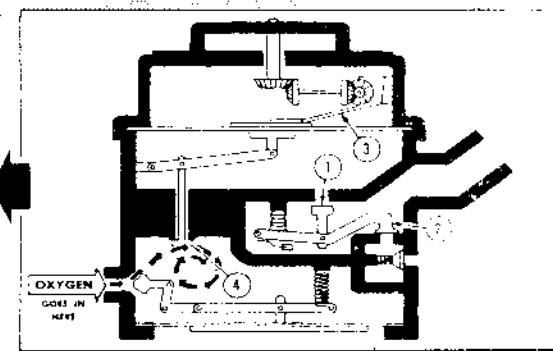

Figure 245 — Oxygen Regulator Operation
(2) OPERATION. (See figure 245.)—Each time the pilot inhales, a small amount of suction is applied to the regulator. This suction is sufficient to deflect the diaphragm which is connected to a valve thus causing the valve to open and oxygen to flow to the mask. As soon as inhalation stops and suction is no longer applied, a spring returns the diaphragm to its original position and the valve is closed.